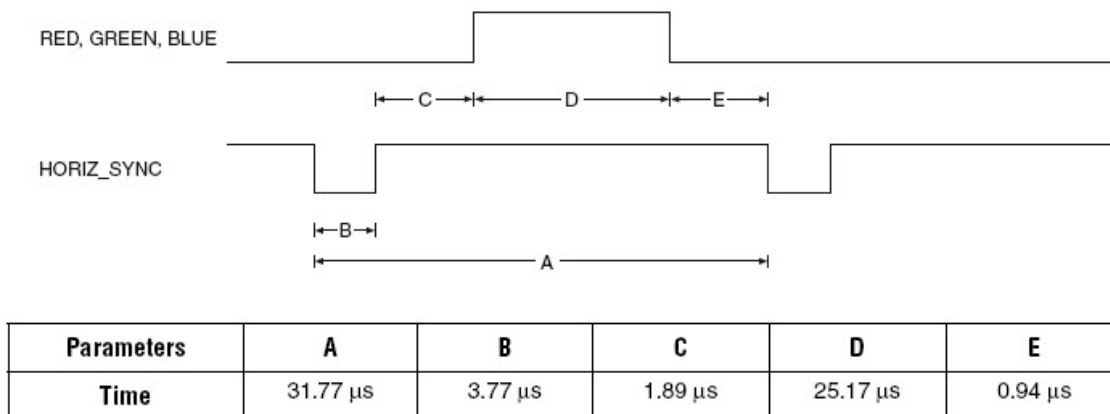
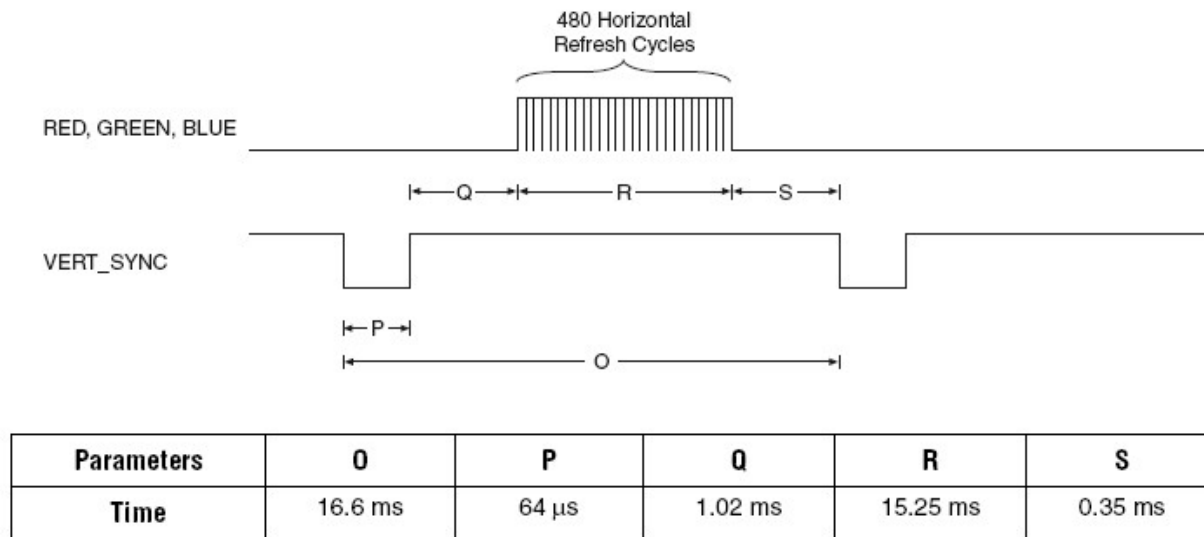

Figure 1. Horizontal Refresh Cycle.
Figure 2. Vertical Refresh Cycle.
The VGA monitor connector on the ALTERA DE0 board consists of five signals, RED, GREEN, BLUE, `HORIZ_SYNC`, and `VERT_SYNC`. Look into the ALTERA DE0 Board User Manual for the header pin outs for the ALTERA DE0 board for these 5 signals. The timing relationships among this signal are shown in **Figures 1 and 2** at the end of this lab document. The generation of signals needed for the raster on the VGA monitor begins with dividing the frequency of the 50 MHz clock on the ALTERA DE0 board down to a 25 MHz pixel clock which is then used to generate the horizontal and vertical sync pulses using a **horizontal counter** and a **vertical counter**.
Horizontal and vertical synchronization. A video display consists of 640 pixels in the horizontal direction and 480 lines of pixels in the vertical direction. The monitor starts each refresh cycle by updating the pixel in the top left-hand corner of the screen, which can be treated as the origin (0,0) of an X-Y plane. After the first pixel is refreshed, the monitor refreshes the remaining pixels in the row. When the monitor receives a pulse on the **`HORIZ_SYNC`** pin, it refreshes the next row of pixels. The time required for the sweep, the horizontal sweep period, is nominally 31.77 μ s. This process is repeated until the monitor reaches the bottom of the screen. When the monitor reaches the bottom of the screen, a 64 μ s pulse applied to the **`VERT_SYNC`** pin, causing the monitor to begin refreshing pixels at the top of the screen (i.e., at [0,0]). As shown in Figure 2, the `VERT_SYNC` pulse must be repeated every 16.6 ms (vertical sweep period). A complete screen of information is being traced by the electron beam every 16.6 ms for a frame rate of 60 Hz.
Blanking intervals. In order to accommodate the time required to move the electron beam back to the left side of the screen (horizontal retrace period) the electron beam must be turned off during the retrace time or the return trace would be visible. This is accomplished by two blanking intervals during the horizontal refresh cycle marked by B and C at the beginning of the trace and E at the end of the trace in Figure 1. Similar blanking intervals are required during vertical refresh (P, Q, and S in Figure 2). The color beams are turned on only when the horizontal counter is in the period D and the vertical counter is in period R.
- To use the constants provided for you in vga_lib.vhd, a value of zero on Hcount corresponds to the beginning of section D in Figure 1.
- Again, to use the constants provided for you in vga_lib.vhd, a value of zero on Vcount corresponds to the beginning of section R in Figure 2.